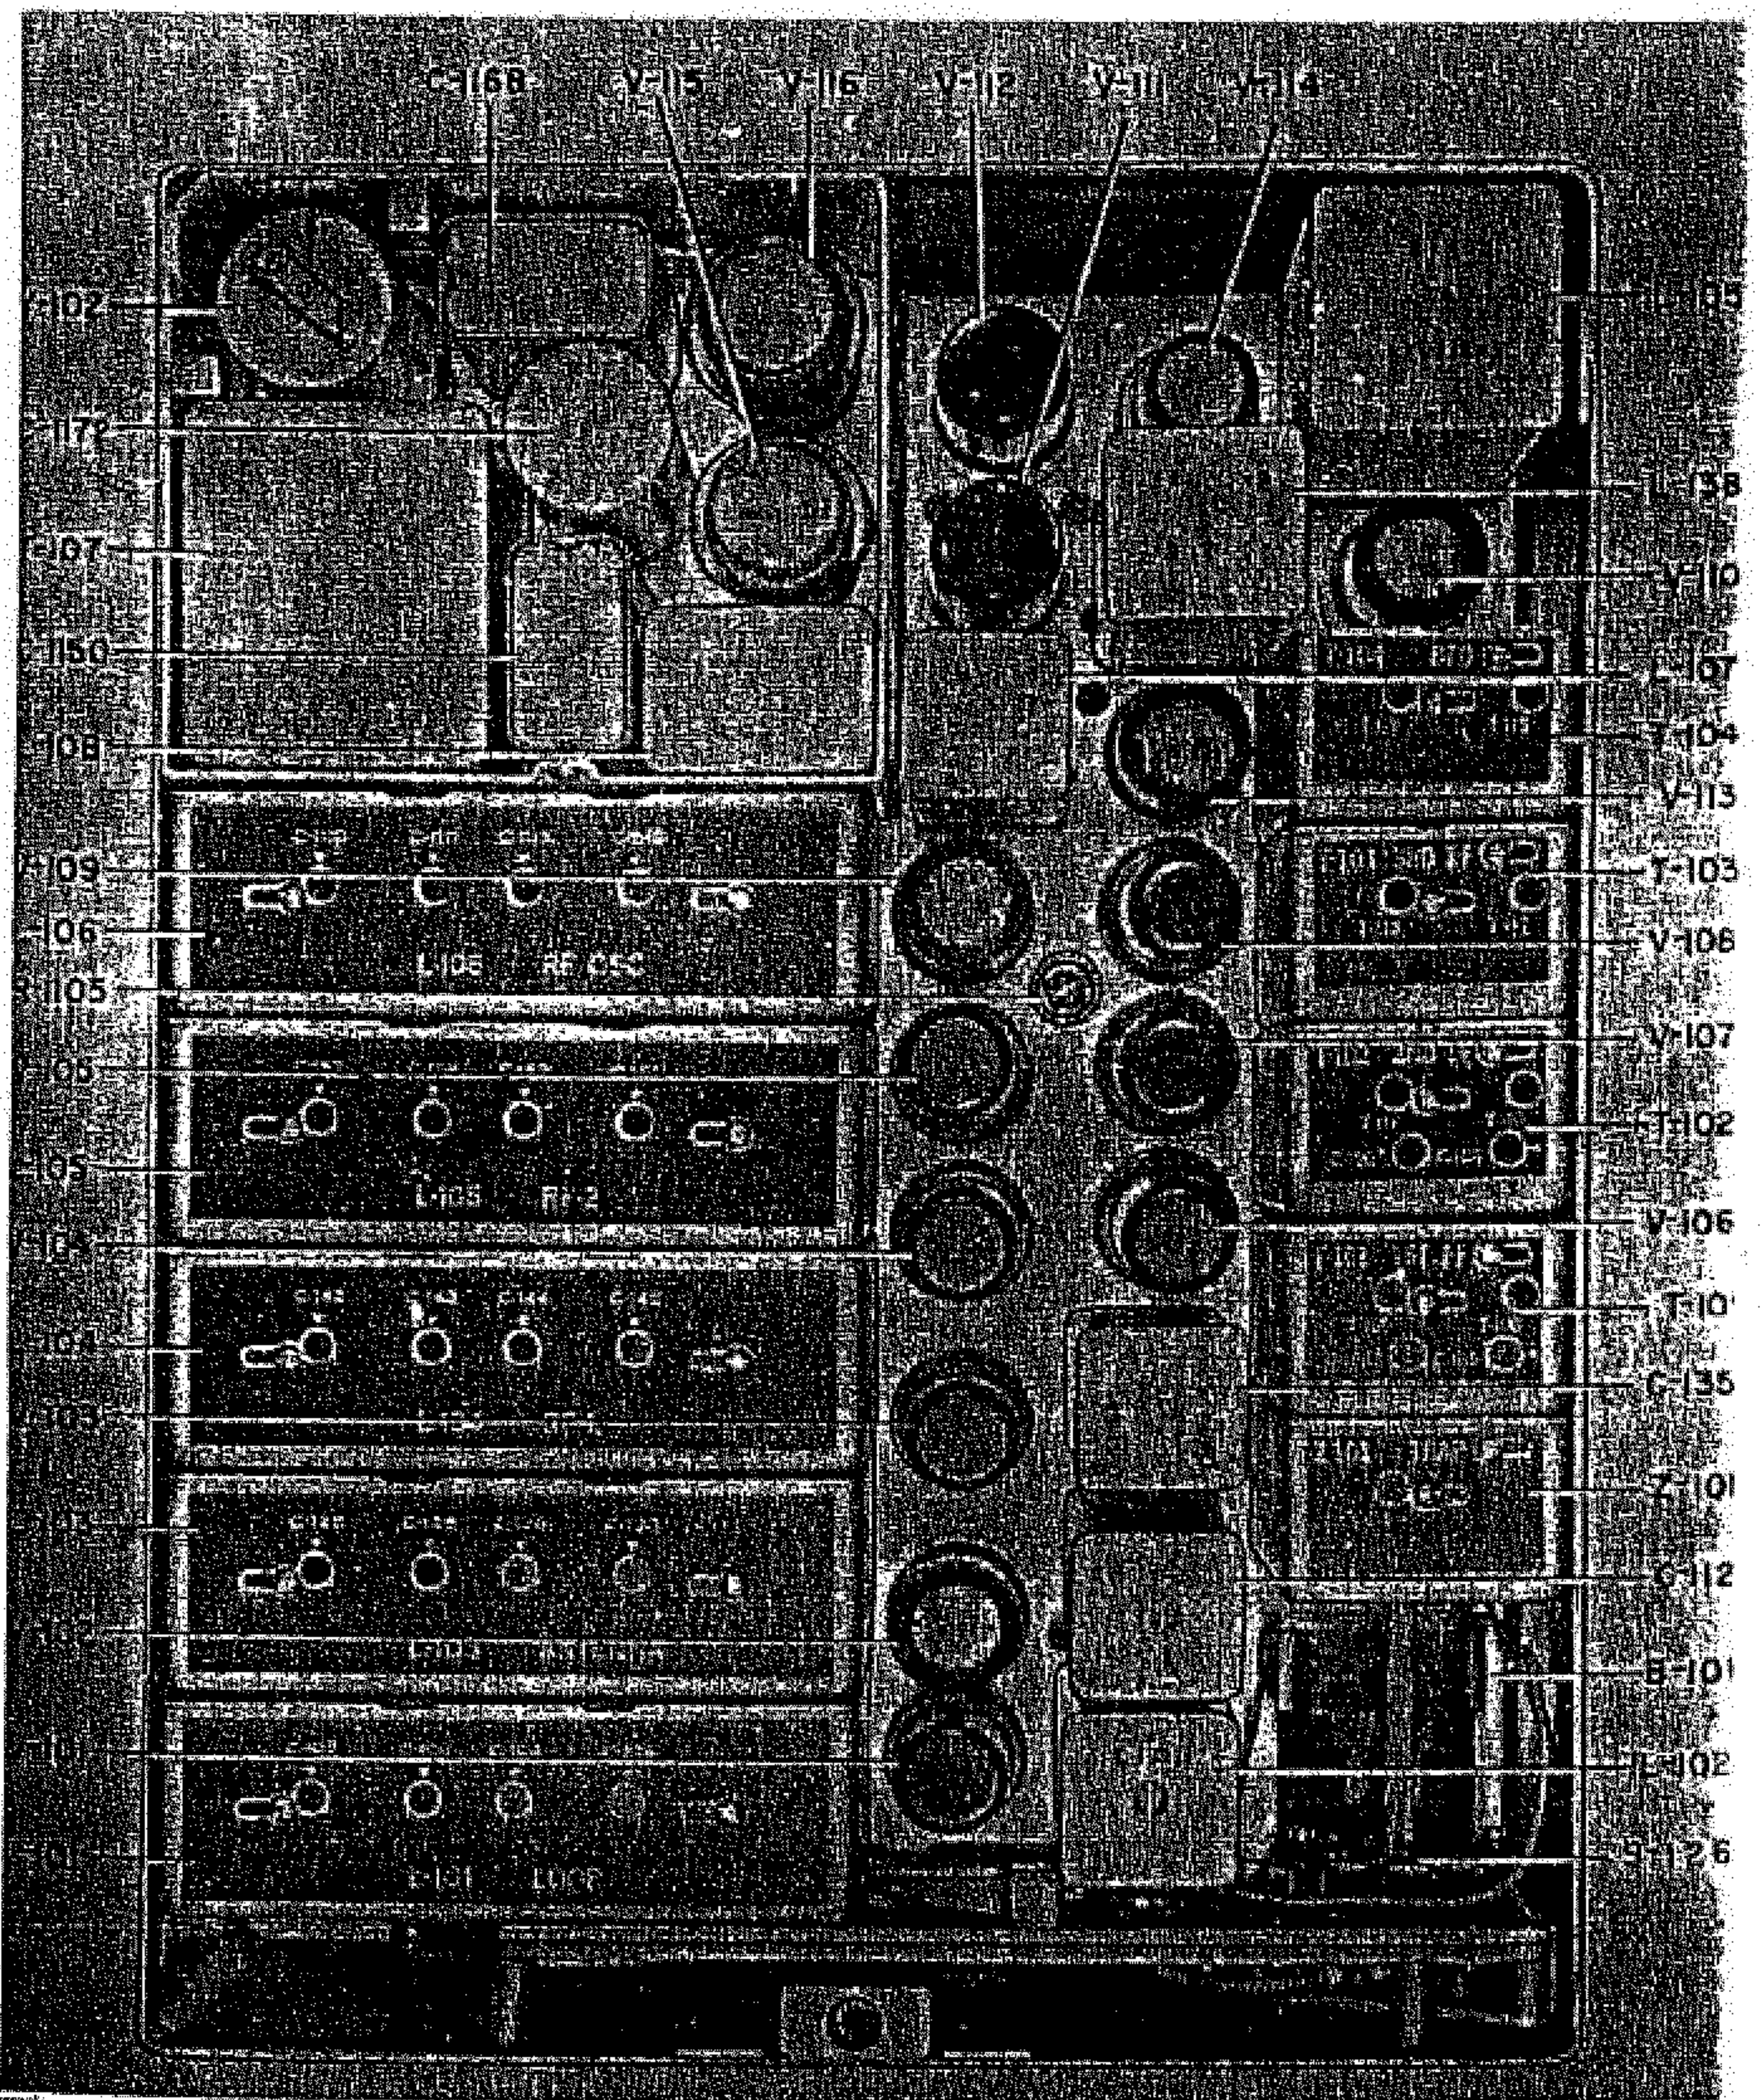

Figure 5-1. Radio Compass Unit R-101 ARN-6, Top View, Cover Removed
(2) RADIO COMPASS UNIT R-101 ARN-6 OR R-101A ARN-6. ( See figures 5-1, 5-2, 5-3, 5-4, 5-5, and 5-6.)
a. To locate cause of unsatisfactory operation of the equipment when installed in the aircraft much time may be saved if a step-by-step procedure is followed as outlined in the Trouble-Shooting Chart. (See figure 5-1 or 5-2.)
(1) With the equipment turned off, check the fuse and replace if burned out.
(2) Remove the receiver from its mounting and check the DC supply at the junction board. Terminal 31 is +26.5 volts and terminal 30 is ground. If this voltage is correct, proceed as follows:
(3) Turn on the equipment at the control box and check the DC voltage from terminal 49 to ground. This voltage reading should be the same as the reading at terminal 31. If the equipment is dual control, repeat the above checks with each control box. When making the above checks, if no voltage is present or the fuse burns out, check for a possible open or grounded DC supply circuit in the control boxes or interconnecting cables. If the voltage at terminal 49 is correct, proceed as follows:
(4) Turn off the equipment. Replace the receiver in its mounting and secure with the thumb nuts. See that all cables are connected and that the control boxes are secured in their mountings. Turn on the equipment. If the fuse burns out, the fault may be traced to the receiver.
(5) When trouble has been traced to one unit, substitute an identical unit known to be in working order and recheck the equipment for proper operation.
(6) Make sure that the nondirectional antenna and lead-in are not grounded or open.